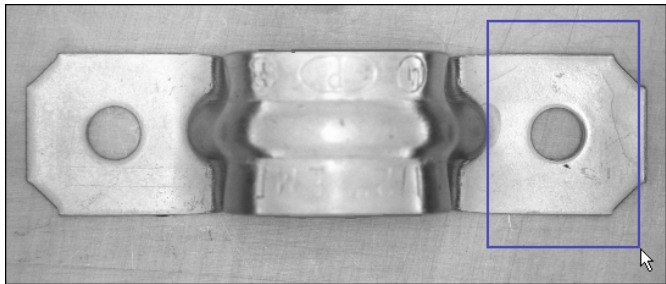

Figure 4-4. Selecting the Second Search Area
20. With the **Rectangle Tool**, draw an ROI around the right side of the bracket, as shown in Figure 4-4. Vision Assistant automatically locates the template in the region bound by the rectangle and displays the score and location of the match.